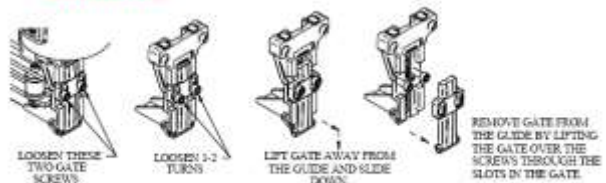

FIGURE 8
In the event of a jam, the Gate (Ref. No. 22 Pg. 26) can be opened by unscrewing the two Gate Screws and releasing the Gate. (See Figures 8 and 9) (The Shoe does not have to be removed to remove and replace the Gate.) Follow instructions below.
3. **DO NOT PRY OPEN THE GATE.** Unscrew the Gate Screws 1-2 turns. Lift and pull the Gate downward as shown and remove the Gate from over the Screws through the slots in the Gate as shown in Figure 8.